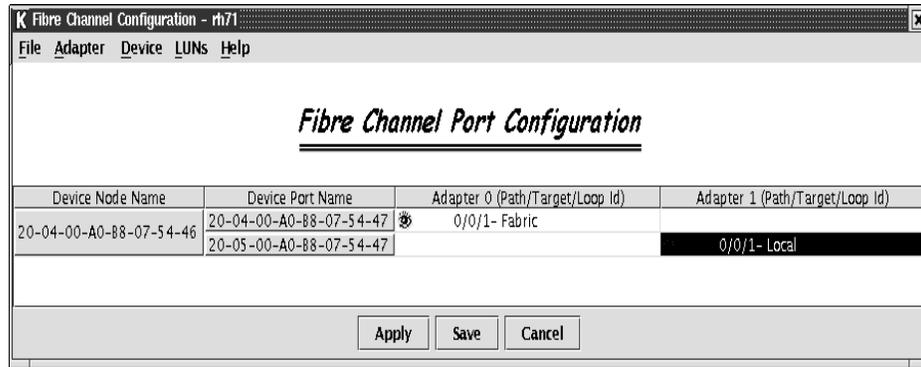

Figure 35. Fibre Channel Port Configuration window
The Fibre Channel Port Configuration window is displayed (see Figure 35 on page 44).
- Click **Cancel** on the Fibre Channel Port Configuration window (see Figure 35 on page 44) if you do not want to save the configuration changes.